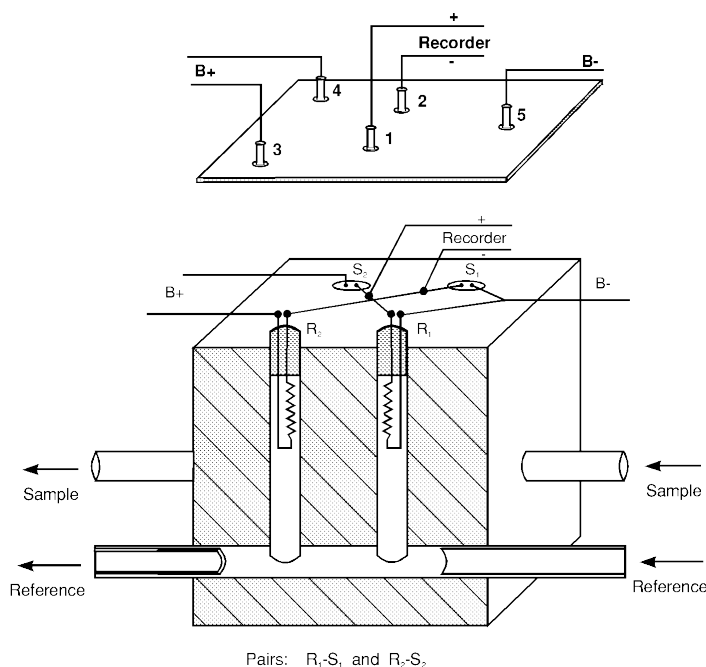

Figure 7
6. Quads are shipped with tube nuts for use when replacing the new filaments. Loosen the tube nuts and remove the filaments (one at a time) from the quad shipping block, observing the SAMPLE and REFERENCE positions. Place the filaments in the proper detector cavity (REFERENCE AND SAMPLE according to the detector's flow configuration, Fig. 7) making sure to keep the filament helix away from gas flow inlet (place the header pin between the gas inlet and the filament).